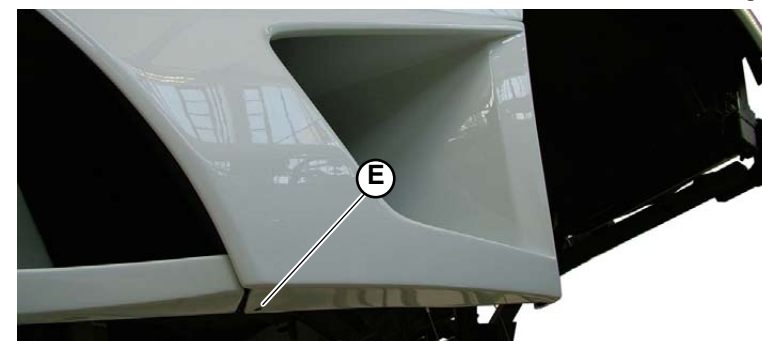

Fig.4
5. Unscrew the screw (**E-Fig.4**) on the lower part of the conveyor and remove the conveyor itself.